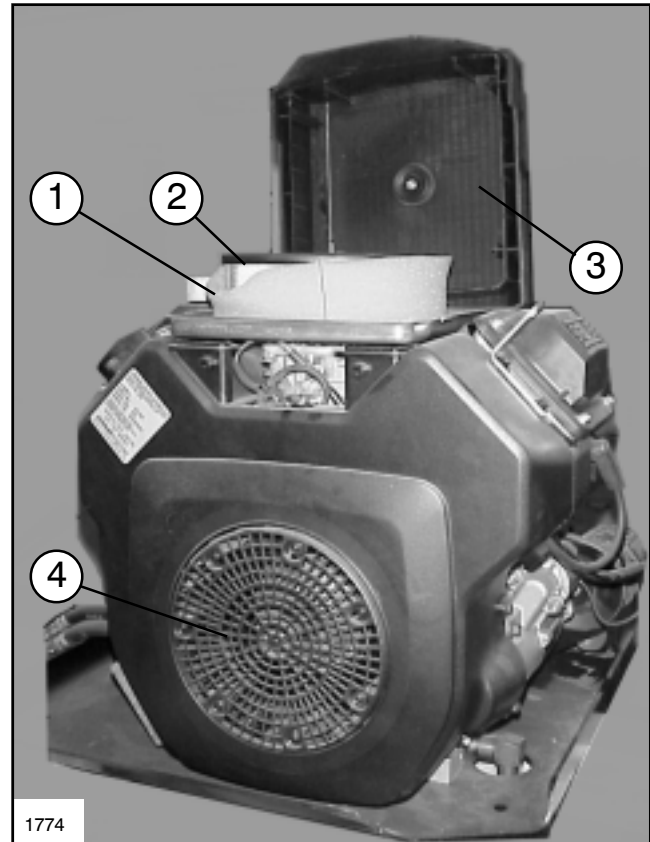

FIG. 5
1. Check the Air Cleaner for any loose or damaged components. (See FIG. 5)
2. Check cooling air intake areas and external surfaces of engine. (See FIG. 5) Operating the engine with a blocked screen, dirty or plugged cooling fins, and/or cooling shrouds removed, will cause engine damage due to overheating.